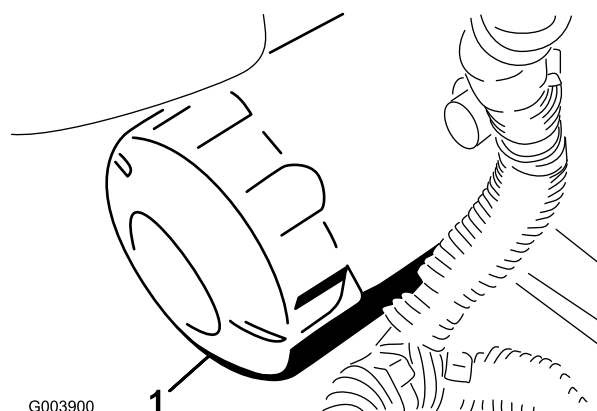

Figure 53
3. Remove the oil filter (Figure 53).